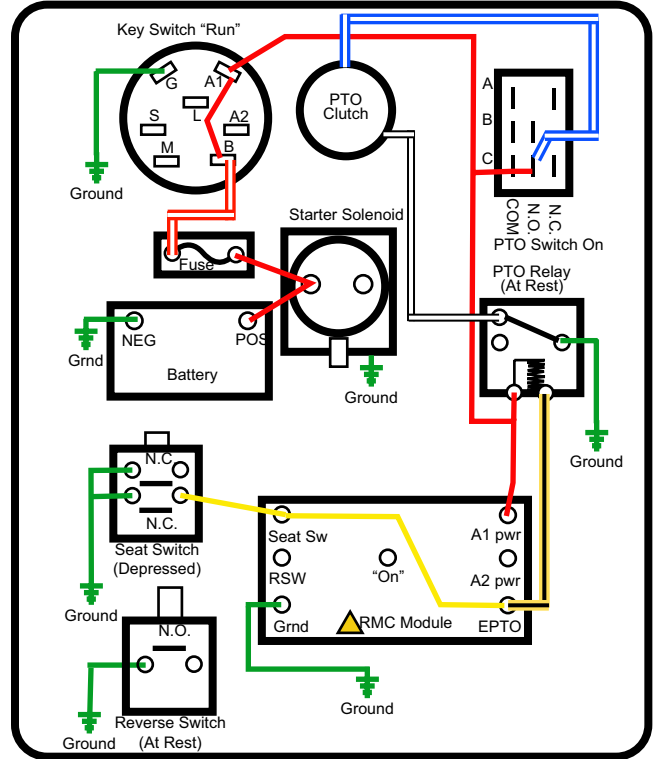

Figure 7.30
2. The seat switch contains two sets of contacts. The set with the yellow wire leads to ground when the contacts of the seat switch are closed. See Figure 7.30.